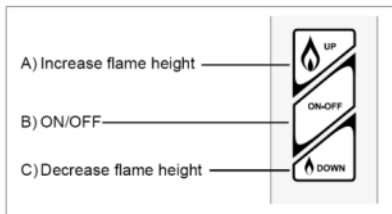

Figure 42 – Optional Touch Pad
- Press button "B" (see Figure 42) until a short beep confirms the start sequence has begun; release button.
- Press and hold button "C" (see Figure 42) to set appliance at pilot flame.
- Press button "B" (see figure 42).
(See Figure 42)